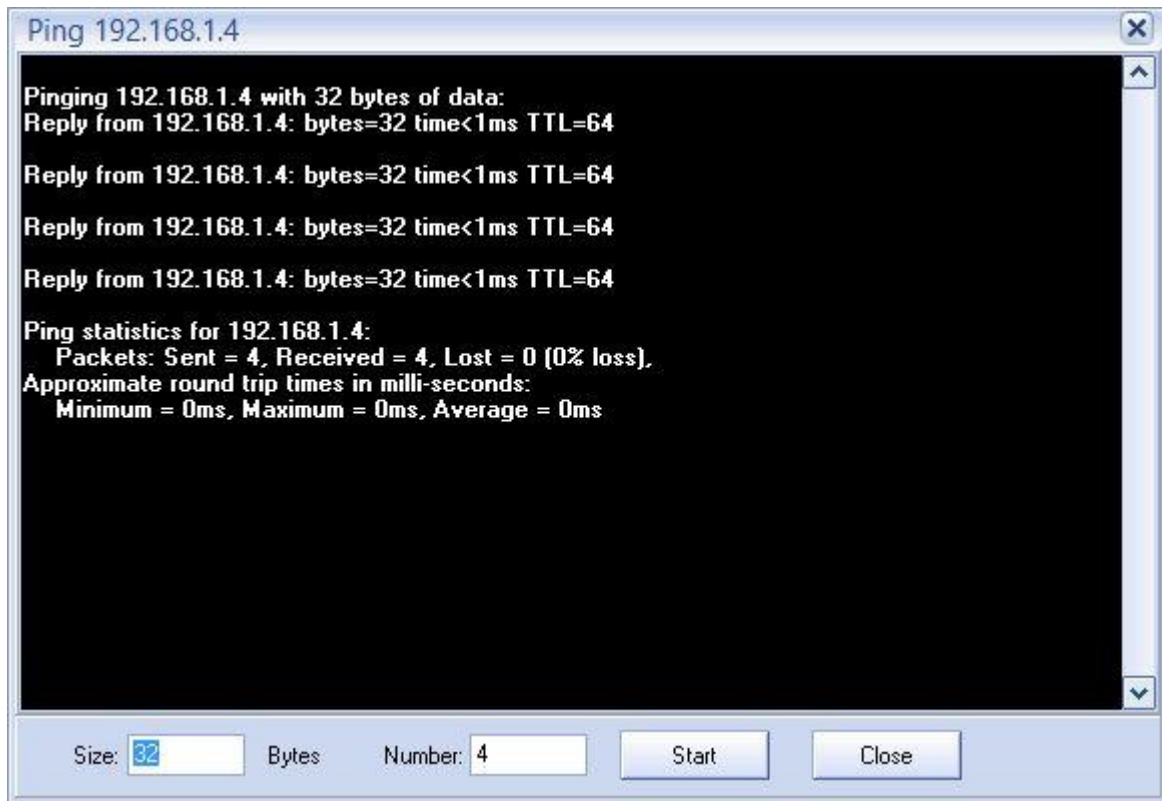

FIGURE 4.40 – PING TEST
- 7) You can do a PING test to see if the DEVICE is responsive. (SEE FIGURE 4.40).